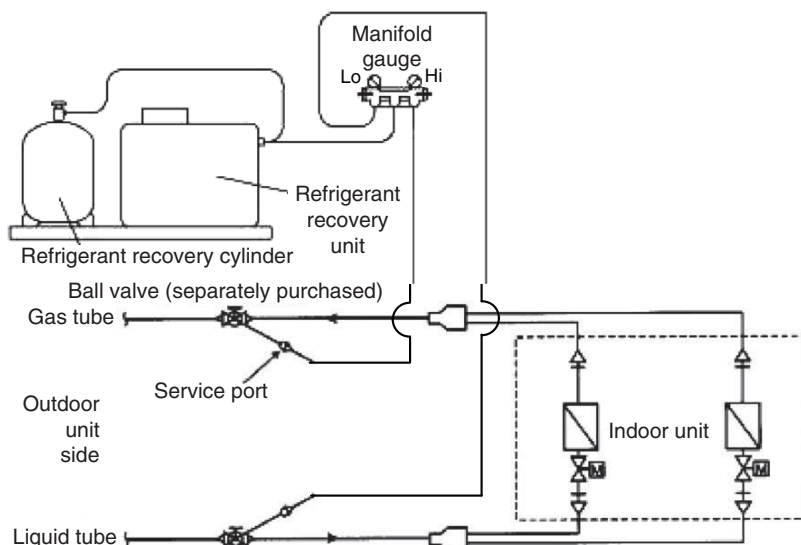

Fig. 10
(1) If a ball valve with a service port has been provided in the indoor unit as shown in Fig. 10, follow the instructions given in (2) through (6) below. If the service port is instead located in the outdoor side, follow the instructions in “5-2-3. Refrigerant recovery procedures (2).”
(2) After running the unit in Cooling mode for about 5 minutes as described in “5-2-1. Cooling operation (for all units),” fully close the liquid tube ball valve.
(3) Run the unit in Cooling mode for 10 to 20 minutes more.
(4) Fully close the gas tube ball valve, and stop the operation of all units.
(5) Use hoses to connect the manifold gauge valves, refrigerant recovery unit, and refrigerant recovery cylinder with each other. (Fig. 10) Do each connection quickly to prevent air from entering the tubing.